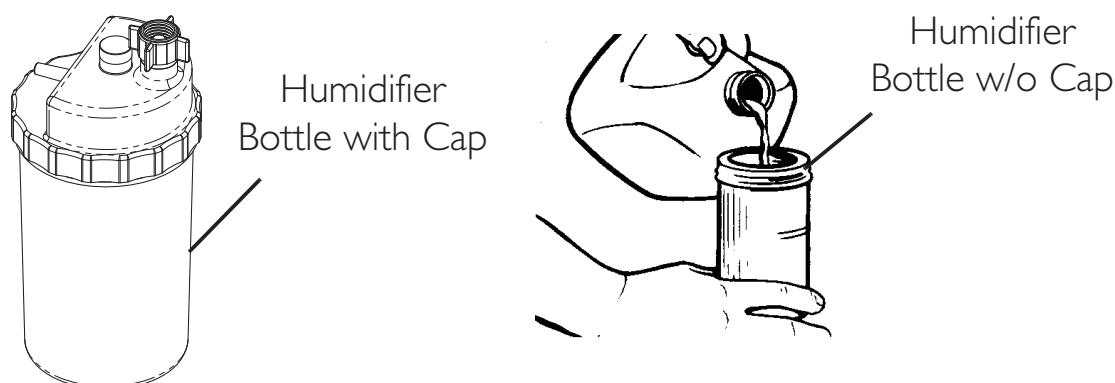
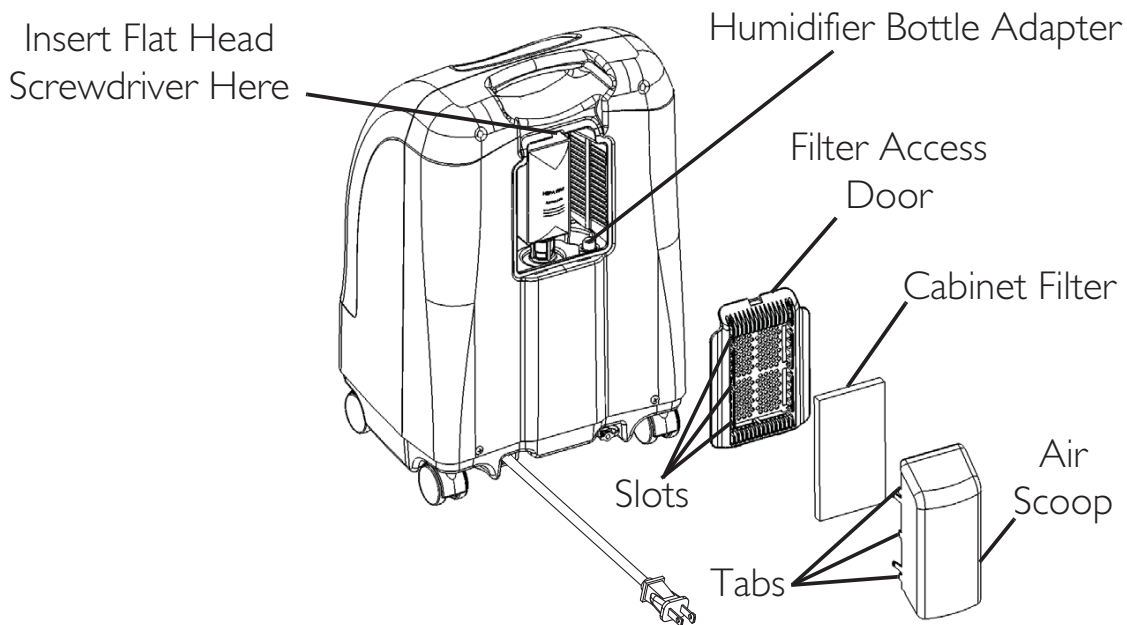
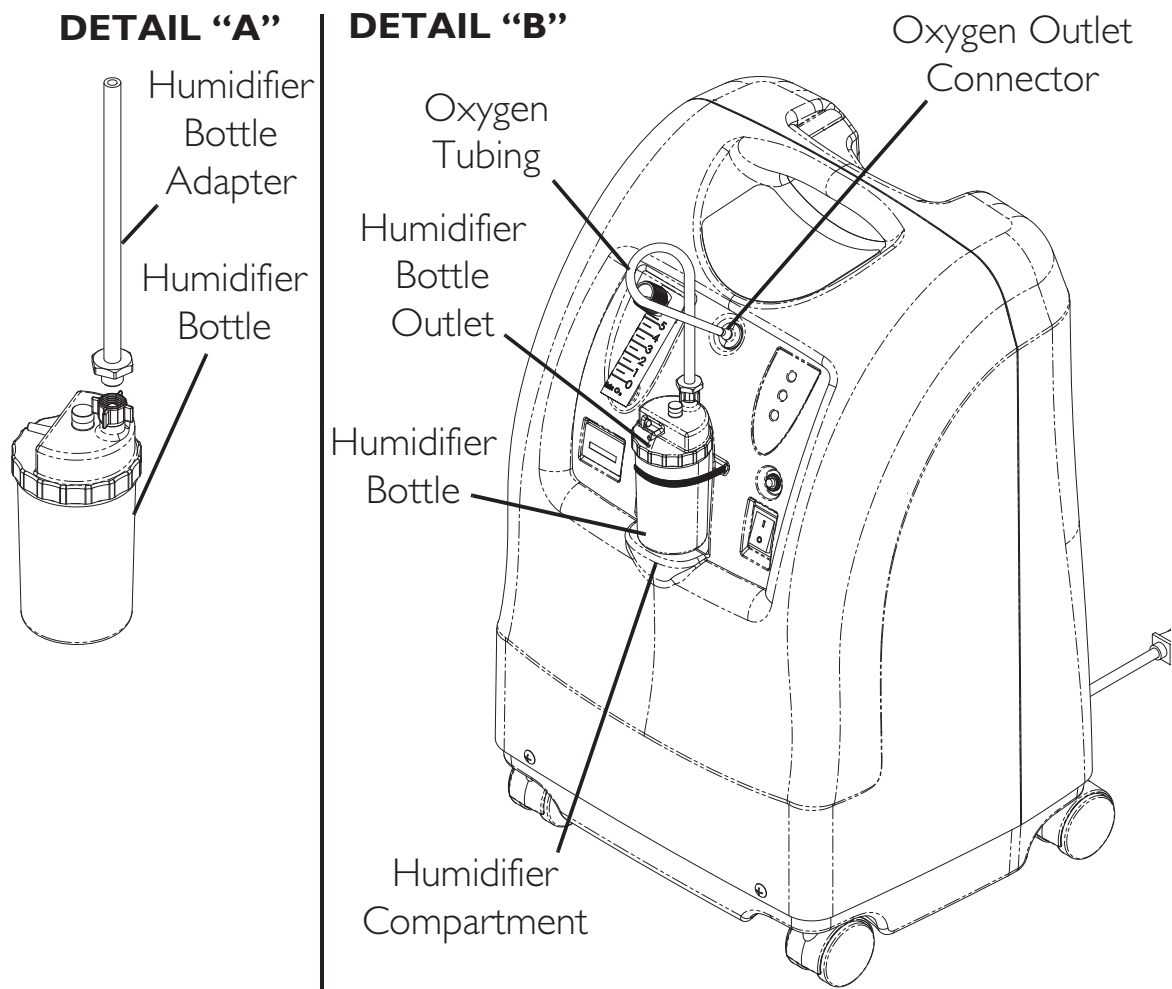

FIGURE 6.1 Filling the Humidifier
FIGURE 6.2 Humidifier Bottle Adapter
FIGURE 6.3 Humidifier Compartment
NOTE: For this procedure, refer to FIGURE 6.1, FIGURE 6.2 on page 19, FIGURE 6.3 on page 20.
3. Insert a flathead screwdriver in the plate groove on the top edge of the filter access door and gently pry the filter access door off (FIGURE 6.2).
4. Pull up and remove the humidifier bottle adapter (FIGURE 6.2).
6. Attach the humidifier bottle adapter to the humidifier bottle by turning the wing nut on the humidifier bottle counterclockwise until it is securely fastened. See Detail "A" in FIGURE 6.3.
7. Place the humidifier bottle/adapter assembly in the humidifier compartment on the concentrator. See Detail "B" in FIGURE 6.3.
8. Attach oxygen tubing from the humidifier bottle/adapter assembly to oxygen outlet connector on the concentrator. See Detail "B" in FIGURE 6.3.
9. Attach the cannula/patient supply tubing to the humidifier bottle outlet. See Detail "B" in FIGURE 6.3.